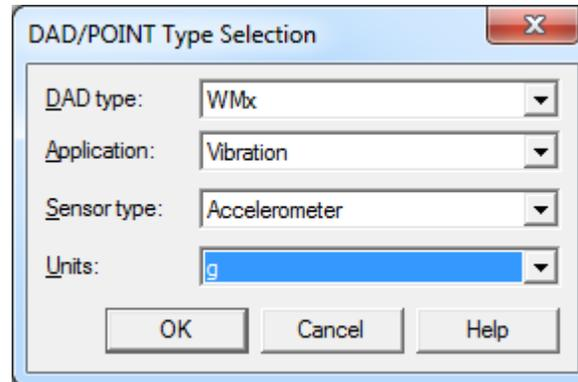

Figure 17. DAD/POINT Type Selection
2. In the DAD/POINT Type Selection window [Figure 17], choose **WMx** as the **DAD type**. Select the **Application**, **Sensor type**, and **Units** as appropriate for the WMx POINT type. Click **OK** when done.